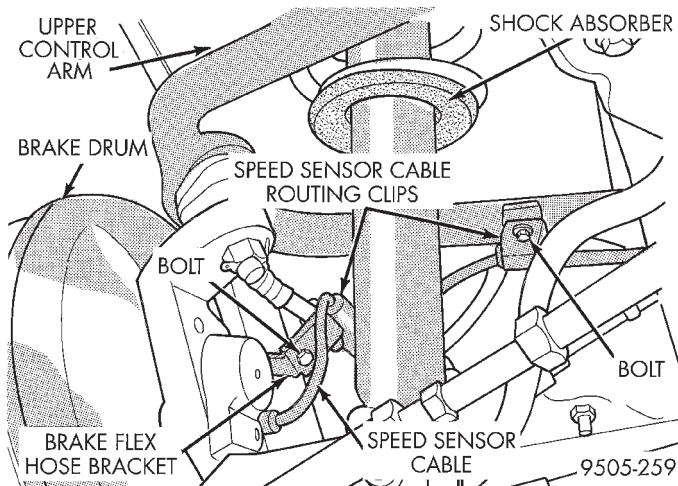

Fig. 26 Speed Sensor Cable Attachment To Control Arm
(8) If vehicle is equipped with antilock brakes, remove routing clips for wheel speed sensor cable from brackets on both upper control arms (Fig. 26).
(7) Install the wheel speed sensor cable routing clip on upper control arm mounting bracket. Install and securely tighten attaching bolt (Fig. 26).